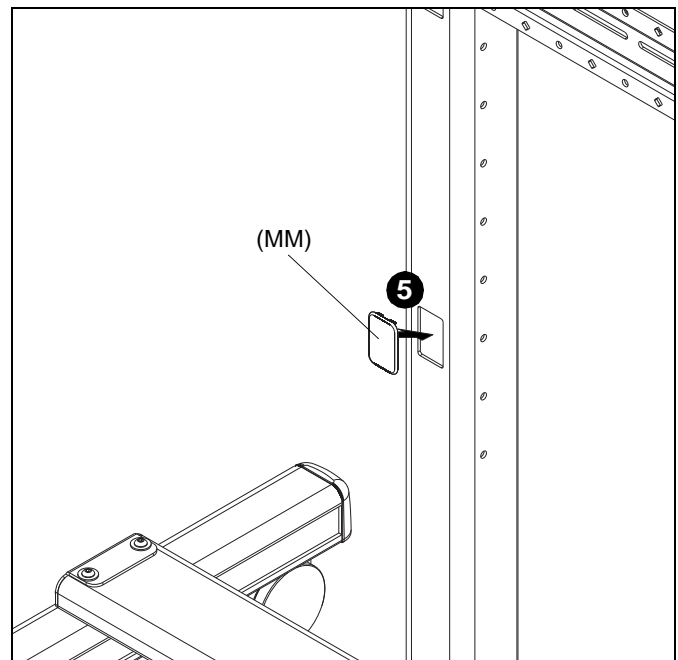

Figure 19
5. For any cable management holes that are not used, snap covers (MM) may be used to cover holes as desired. (See Figure 19)